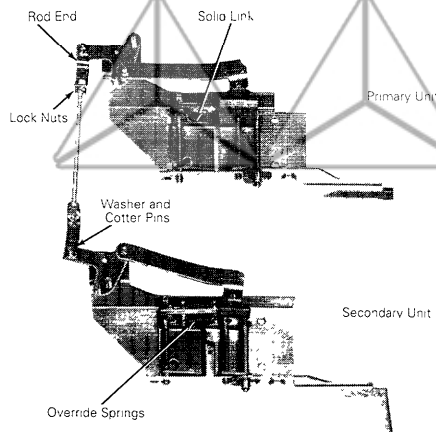

Figure 7. Attachment of the interconnection rod for a vertical installation.
1. Attach the rod ends to the pivots as shown in Figure 7. The rod ends are provided in the Mechanical Interlock kit; the $\frac{1}{4}$ -20 threaded rod is supplied by the customer.